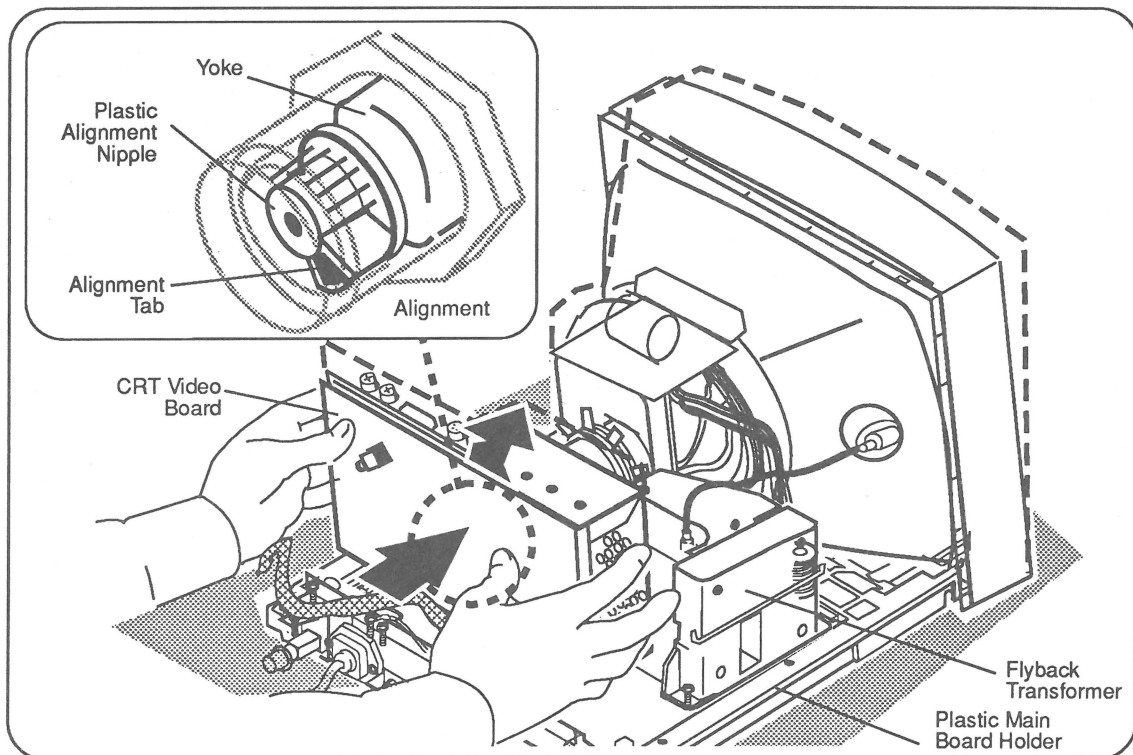

Figure 2-9 Installing the CRT Video Board
IMPORTANT: The CRT assembly must be tilted up slightly (see **Figure 2-9**) in order to install the video board over the rear metal chassis. There is sufficient play in the plastic main board holder to tilt up the CRT without fear of breakage.
3. **Figure 2-9.** Position the CRT video board behind the plastic alignment nipple on the neck of the CRT assembly. Align the notched groove in the CRT connector with the alignment tab on the plastic nipple. Using both hands, push the CRT video board squarely onto the neck of the CRT.